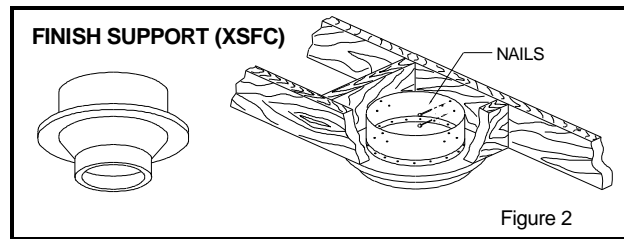

Figure 2
- 2** From below push the support into the framed hole. Nail the support to the framed box using 12 - 3" spiral nails (see Fig. 2)